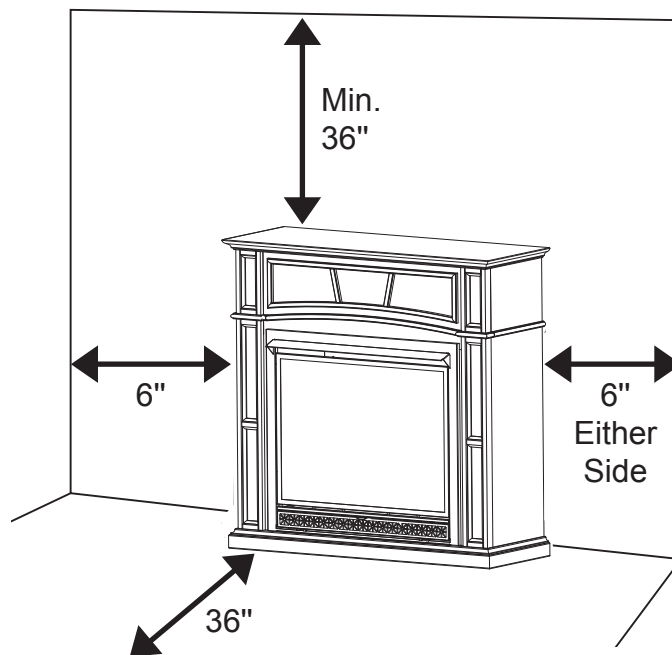

Fig. 6 - Minimum Clearance to Combustible Material
IMPORTANT: Maintain the minimum clearances shown in Figure 6 on page 13. If you can, provide greater clearances from floor, ceiling and joining wall.
- A. Clearances from the side of the fireplace cabinet to any combustible material and wall should follow diagram in Figure 6.
The installer must supply an external regulator for liquid propane. The external regulator is provided by the gas supplier for natural gas. The external regulator will reduce incoming gas pressure. You must reduce incoming gas pressure to between 11 and 14 in. of water column for propane and between 6 and 14 in. of water column for natural gas. If you do not reduce incoming gas pressure, heater regulator damage could occur. Install external regulator with the vent pointing down as shown in Fig. 6. Pointing the vent down protects it from freezing rain or sleet.